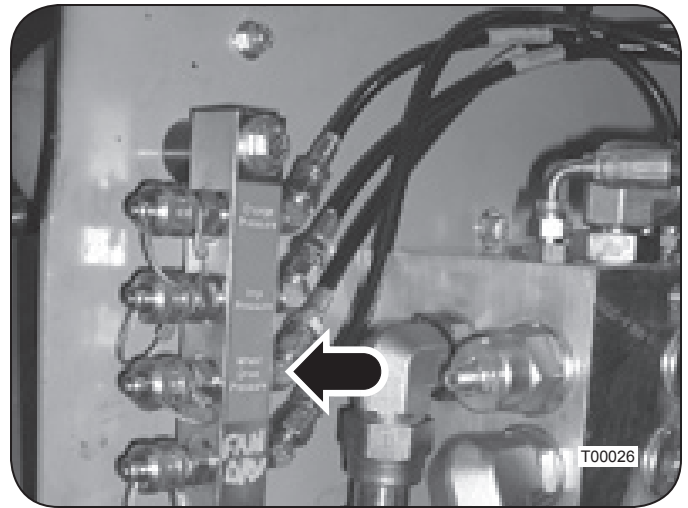

Figure 1: Wheel Drive Charge Pressure Gauge Port Tap
3. Connect the 600 psi pressure gauge, with the quick-couple adapter attached, to the gauge port tap provided on the centralized pressure check manifold. See Figure 1.